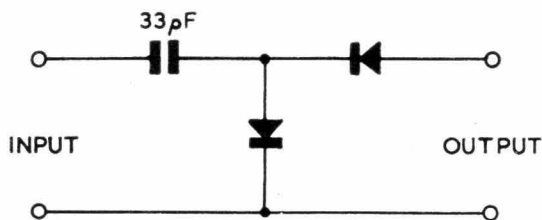

Fig 4: Peak-to-Peak Detector.
- (1) Inject 5.5 Mc/s. at approximately 100 mV between the junction L31 and L32 and earth (disconnecting the grid peaking choke, L31).
- (2) Connect the input of the peak-to-peak detector illustrated (Fig. 4) to CRT cathode, pin 7. Connect the output of the peak-to-peak detector to a 20,000 ohm/volt meter on the 50 micro-amp range.
- (3) Adjust primary core of IFT4 (nearest chassis) to give zero reading on meter. If IFT4 is replaced, it is necessary to adjust both cores to give a zero reading at 5.5 Mc/s.
- (4) Withdraw both cores from former. Screw in primary core (nearest chassis) to give a minimum reading.
- (5) Screw in secondary core until meter reading rises slightly and then adjust primary core until a new minimum is obtained.
- (6) Repeat adjustment of primary and secondary cores until meter reads zero.